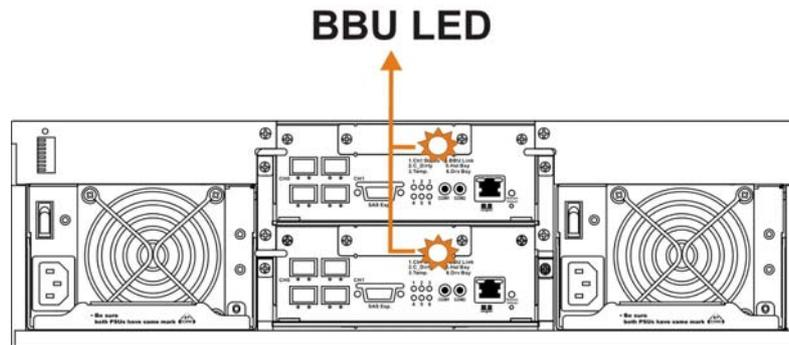

Figure 5-10: BBU LEDs
**Step 4.** The LED should start flashing to indicate that the BBU is being charged. When the BBU is fully charged, the LED will go off. (See *Figure 5-10*)